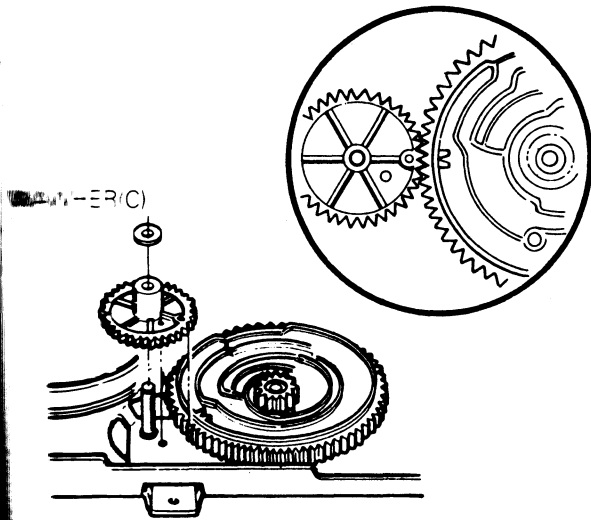

Fig. B-25 PC Gear
- ① Align the Projection of Rack Gear T with the hole of Loading Gear.
- ② Drive the Rack Gear F.L in the direction of arrow(D).
- ③ Hole of Cam should be aligned with the hole of chassis, and the groove(■) of Cam Gear should be aligned with the hole of PC Gear(Fig. B-25)
## PC Gear(Fig. B-25)
- 2) The Groove of PC Gear should be aligned with the groove of Cam Gear, and another hole of it should be aligned with the hole of chassis(Fig. B-25).